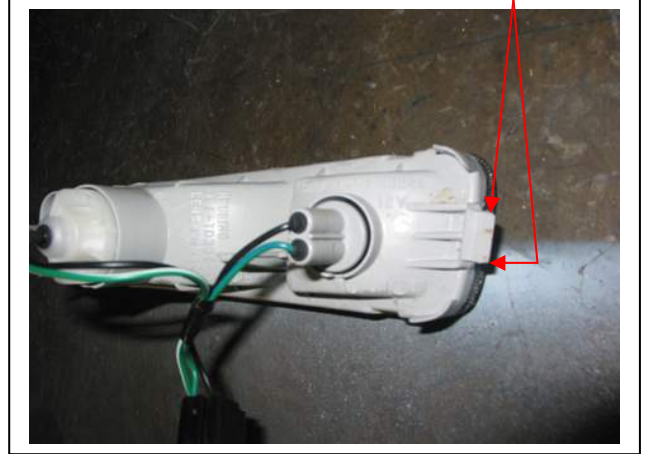

Figure 8
10. Trim 2mm top and bottom from original indicator tab. **See figure 8.** Install into protection bar. Use indicator as a guide drill a 1/8 hole through protection bar bracket. Use original PK self-tapper. Reconnect plug and **CHECK OPERATION.**